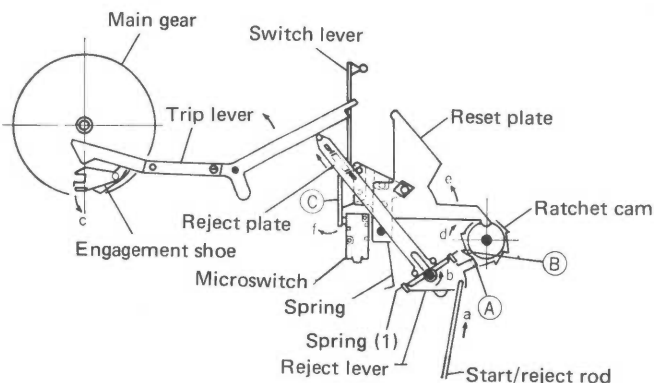

Fig. 3
As shown in Fig. 3, when the start/reject rod is pushed in the direction of arrow (a) the reject lever connected to the rod turns in the direction of arrow (b). At this revolution, the reject plate is pushed by the spring (1), and the engagement shoe is moved in the direction of arrow (c), beginning the starting cycle operation.
When the START/REJECT operation lever is pulled toward "START", the mechanism operates as shown in Fig. 3 to power the platter and carry the tonearm to the specified position on the record surface.